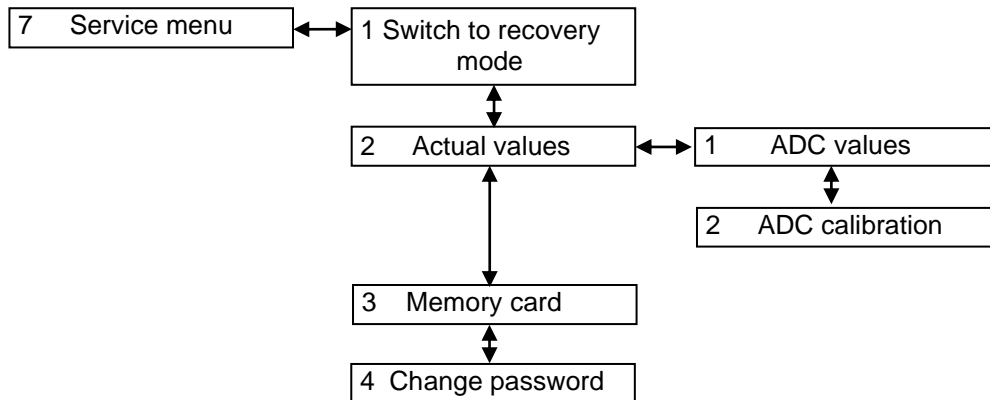

Figure 87 – Structure of **Service menu**
**Service menu** contains (see figure 87):